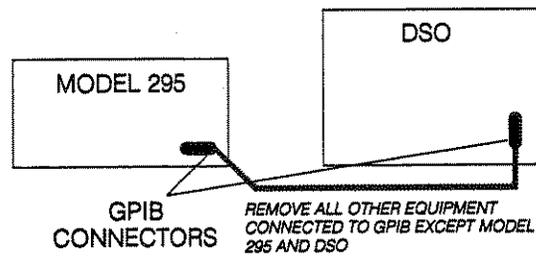

Figure F-7. Model 295 - DSO Interconnection
2. Connect the GPIB cable from the Model 295 to the scope. See figure F-7.